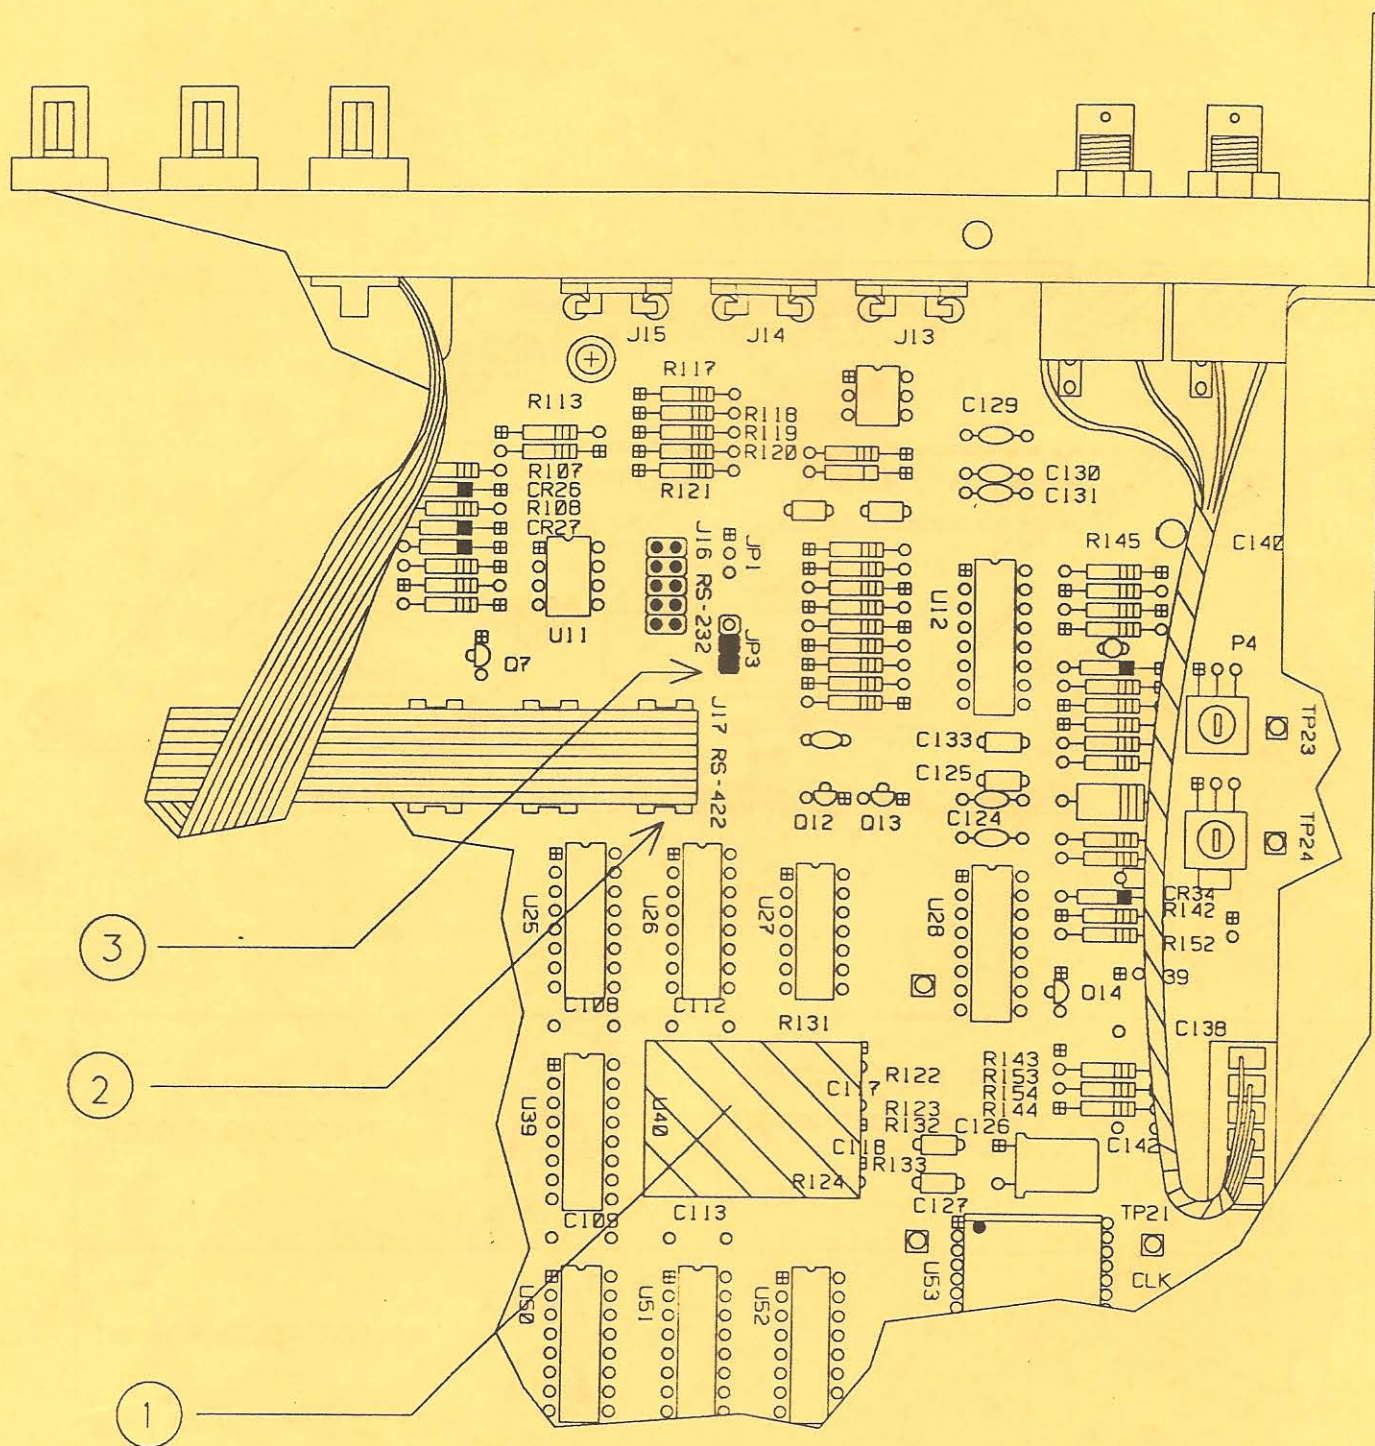

Figure 3. Location of Reset PCB and Computer Port Components
13. Approximately half way between the Zeta's front and rear panels, towards the right, is a small printed circuit board which is plugged into socket U40 on the main circuit board (see Figure 3, pointer #1). This is called the "Reset PCB".
Locate the short ribbon cable originating at the 9-pin COMPUTER connector on the rear panel (see Figure 3).
For RS-422 operation, plug the other end of this cable into connector "J17 RS-422" on the main printed circuit board (Figure 3, pointer #2). Be careful here! Connector J17 consists of two rows of 5 pins each, and it is quite possible to plug into it and "miss" one of these rows entirely.
In addition, position blue jumper JP3 on the two of its three pins which are adjacent to connector J17 (see Figure 3, pointer #3). In other words, both the connector and the jumper are "towards the front" of the cabinet.